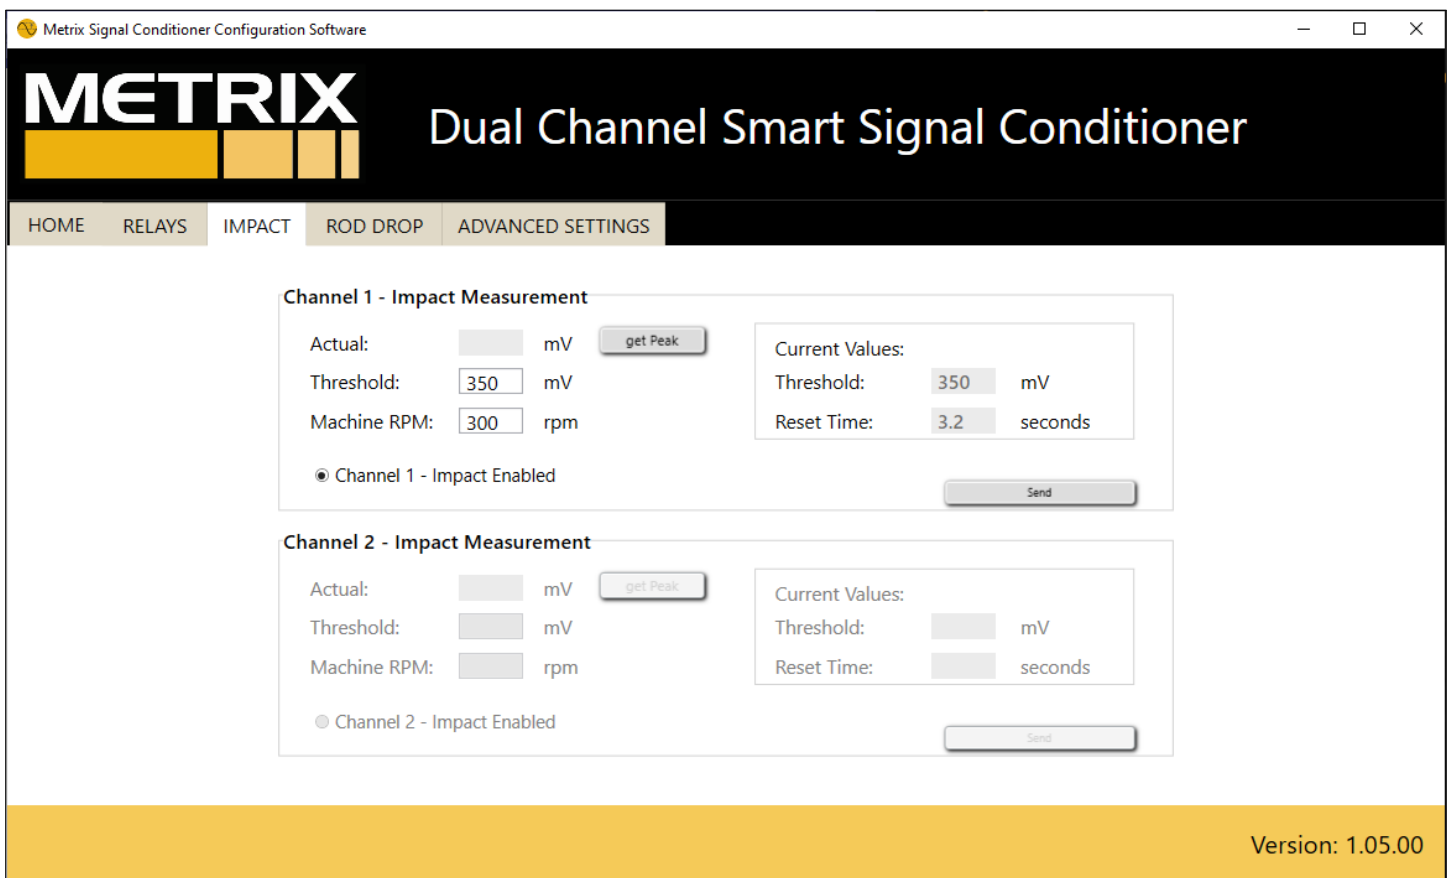

Figure 15: Unit configured for Impact Measurement.
3. Using the configuration software to enable Impact Measurement will configure the unit to default values. (See Figure 15)